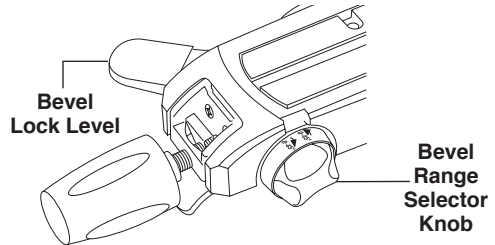

Figure 33.
Choose the desired bevel range using the bevel range selector knob (Figure 33).
- b. Lift bevel lock lever to release bevel lock (Fig. 33).